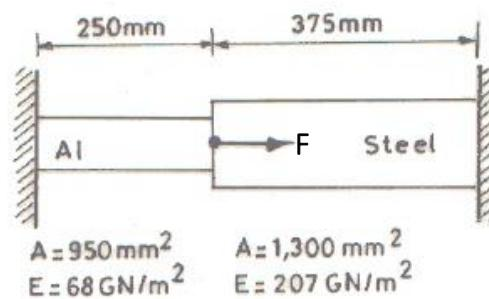

Fig. 2
2. A composite bar as shown in **Fig. 2**, is firmly attached to unyielding supports at the ends and is subjected to the axial load F . If the aluminium is stressed to 70 MPa, what is the stress in the steel?